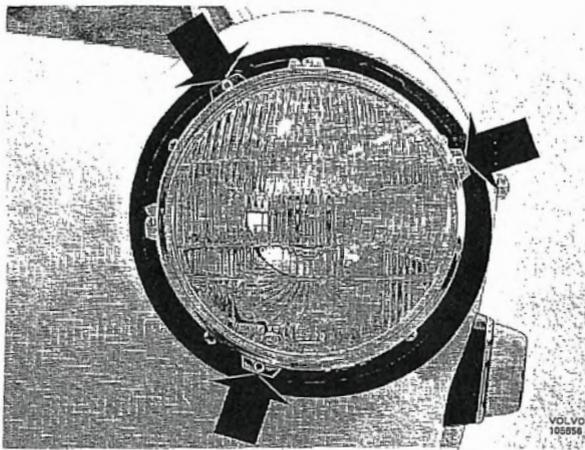

Fig. 3-83. Removing headlight inner ring
2. Remove the screws indicated in Fig. 3-83 with arrows and lift off the inner ring.